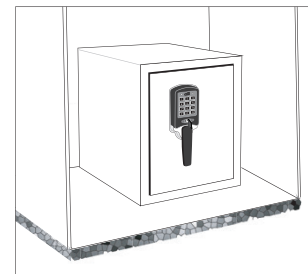

Figure 1
1. Select a suitable and convenient location for your safe (Figure 1).